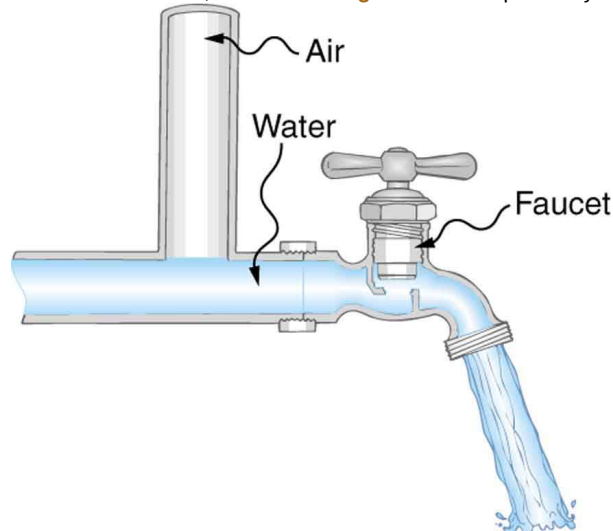

Figure 12.27 The vertical tube near the water tap remains full of air and serves a useful purpose.
25. Plumbing usually includes air-filled tubes near water faucets, as shown in **Figure 12.27**. Explain why they are needed and how they work.